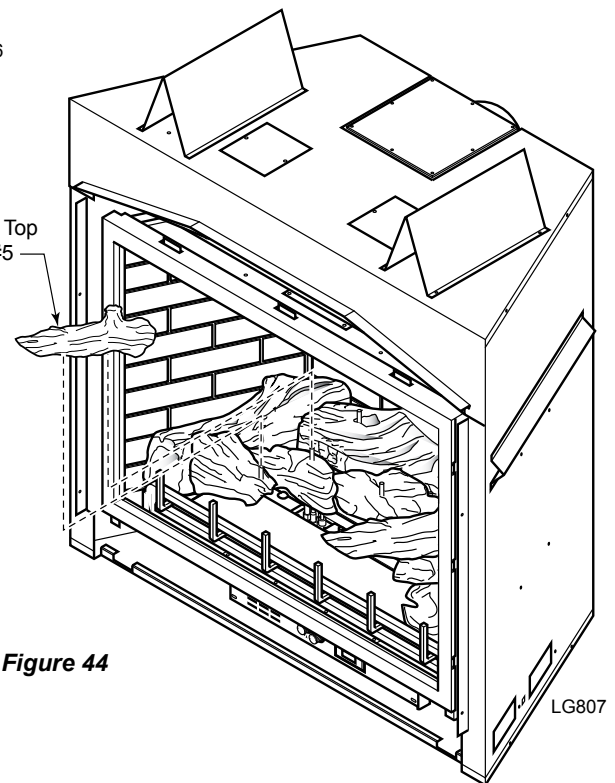

Figure 44
- 9. Place right top log (#5) on two pins on middle left log. *Figure 44*